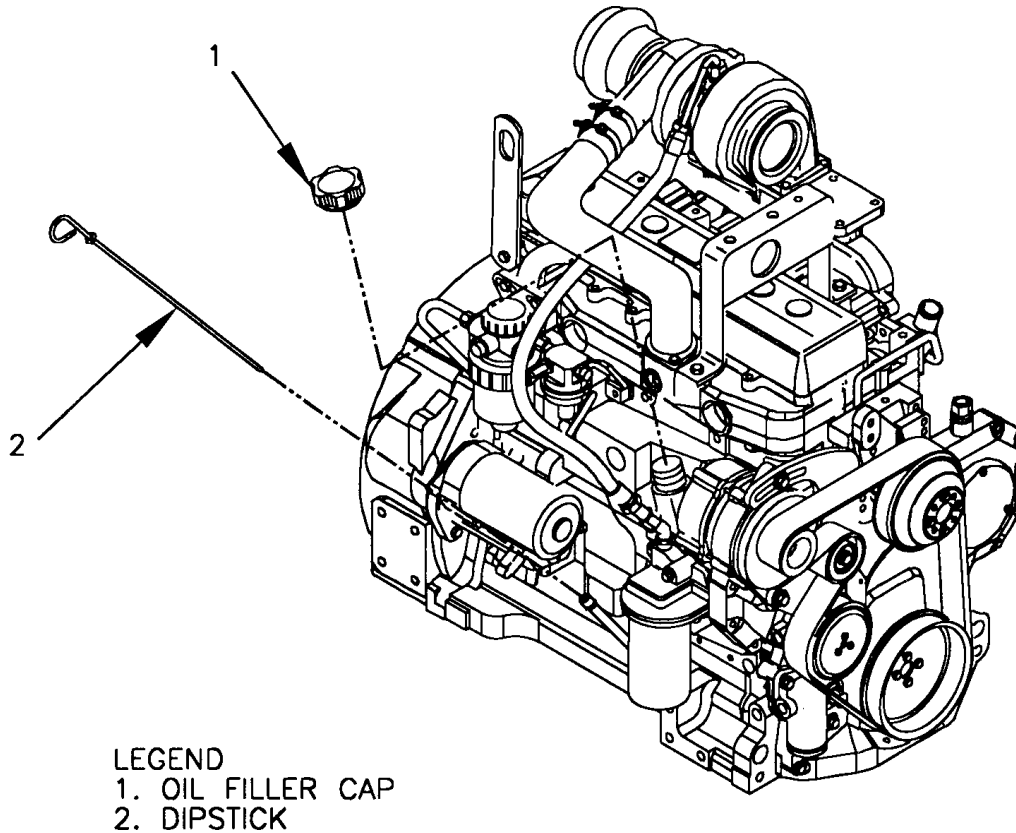

FIGURE 4-2. DIPSTICK AND OIL FILL CAP
- (4) Close oil drain valve, and close BATTERY ACCESS door. Install plug in OIL DRAIN (2).
- (5) Remove oil fill cap (1, Figure.4-2).